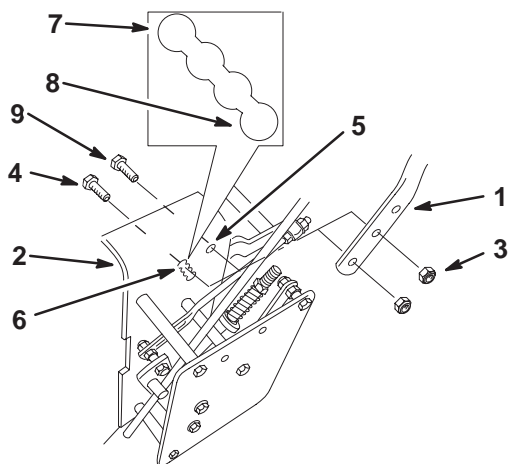

Figure 2
1. Align handle with upper mounting holes in rear frame (Fig. 2).
2. Secure the handle at each upper mounting hole with a flange bolt (3/8 x 1-1/4 inch) and flange nut (Fig. 2).
3. Select the low position for the lower mounting hole (Fig. 2).
4. Secure the handle at each lower mounting hole with a flange bolt (3/8 x 1 inch) and flange nut (Fig. 2).